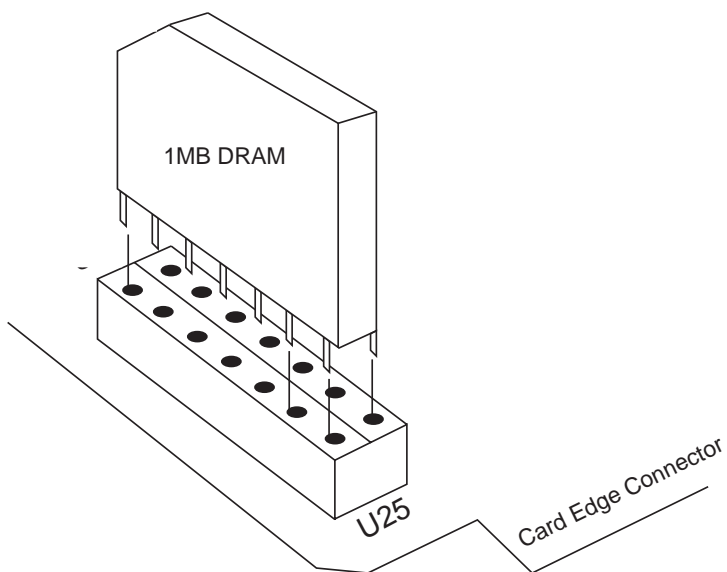

Figure 3-2 DRAM Installation
1. Install the DRAMs in sockets as shown in Figure 3-2. Line the pins of the chip up with the holes of the socket. The index mark on the end of the chip (it looks like a small nick) should be farthest from the gold contact fingers. Carefully push the DRAM into the socket. Populate sockets U19 and U21 for 256K or 1 MB systems followed by sockets U24 and U25 for 512K or 2 MB systems.